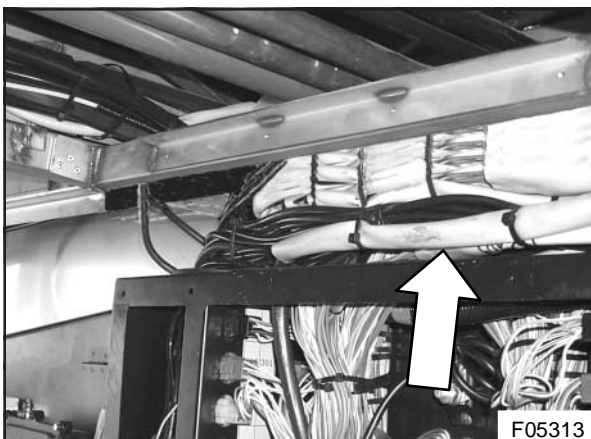

Figure 4 : Wire harness slack on top of main junction box
3. Dislodge the wire harness slack on top of the main junction box (see Figure 4),